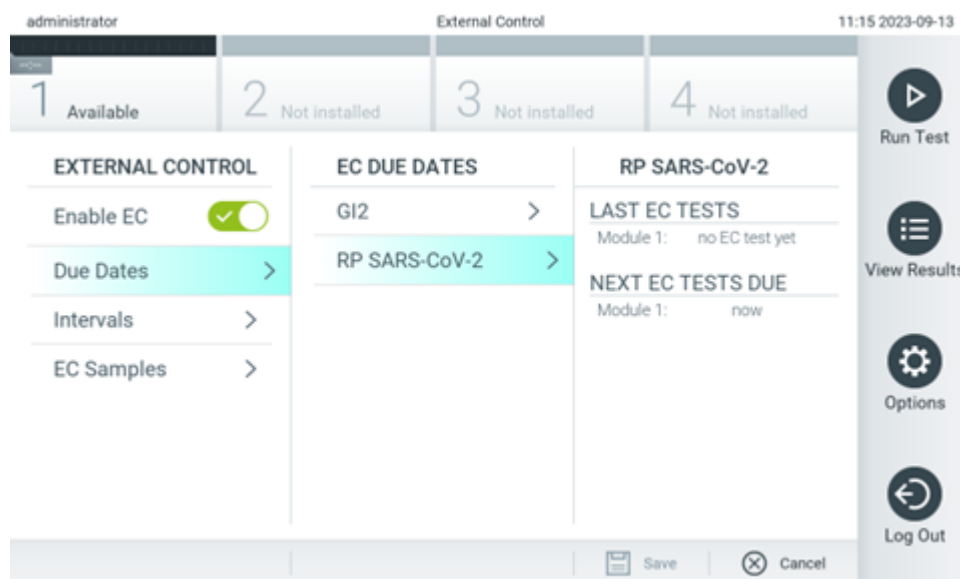

Figure 77. External Control Due Dates screen.
3. Select Due Dates and then an assay from the list to see when the last External Control test was performed per assay and analytical module and when the next External Control test is due (Figure 77).